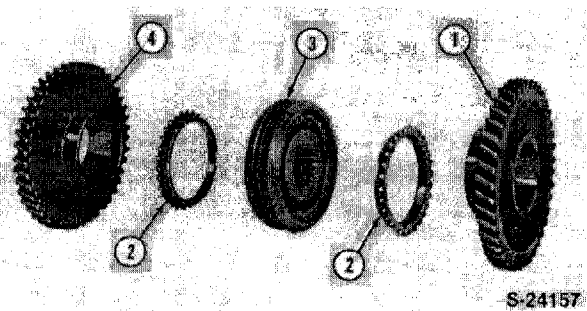
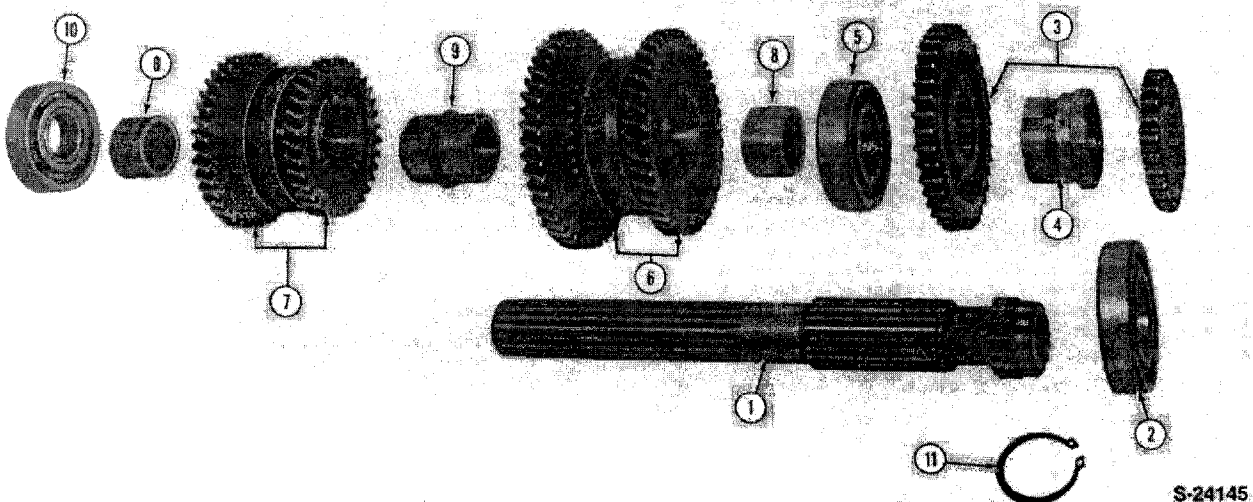
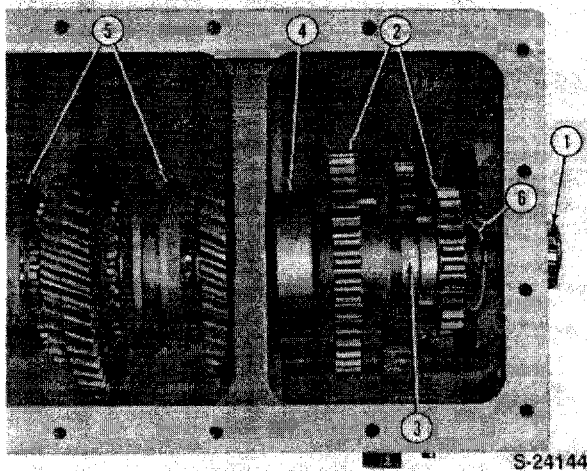

Figure 163
Figure 164
Figure 165
4. Assemble the synchronizer rings (2), counter gears (1 and 4) to the synchronizer gear assembly, Figure 163.
5. Position the fixed gears (3), collar (4), center bearing (5), and the two synchronizers (6 and 7) in place in the bottom of the housing.
6. Position the snap ring (11), Figure 164 on the shaft as shown, (6) Figure 165.
7. Insert the main shaft from the rear through the fixed gears, collar, center bearing and synchronizer assemblies and into the front bearing, Figure 165.
- NOTE:** The center bearing must remain loose on the shaft and not permitted to enter the case bore until the main shaft rear gear teeth are clear of the rear fixed range gear, as shown, Figure 165.
8. Install the rear bearing (2), Figure 164.
9. Install the snap ring (11) in the shaft groove, Figure 164.
If any of the main shaft components have been replaced, a new adjustable collar (3), Figure 165, must be used and the main shaft end float clearance checked and adjusted. To perform this check, the transmission case must be buckled up to the rear axle center housing.